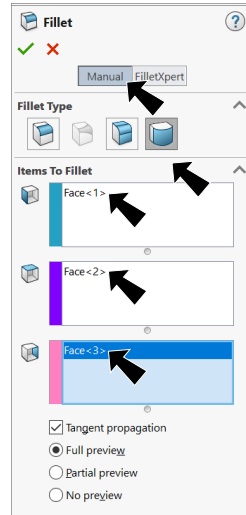

Fig. 47
Step 2. In the Fillet Property Manager, select **Manual**, **Fig. 47** under Fillet Type